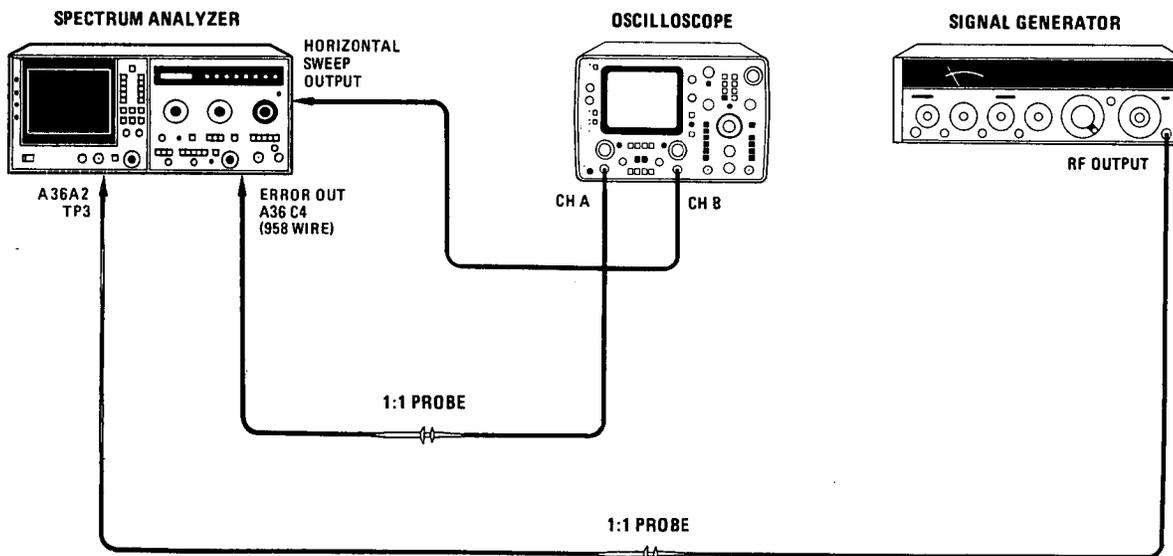

Figure 5-43. Tuning Stabilizer VCXO Check and Adjustment Test Setup
16. Connect equipment as shown in Figure 5-43 and set oscilloscope for an externally swept (A VS B), DC coupled display. Set CHAN A to 10 mV/DIV and CHAN B to 1V/DIV. Set all normal (green) spectrum analyzer settings, except as indicated, and other controls as follows: